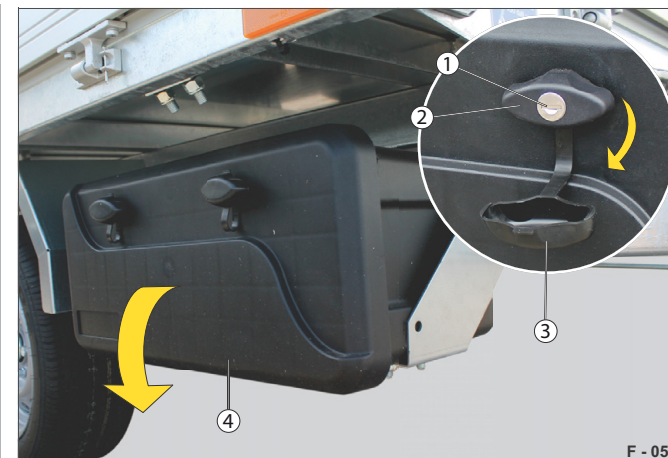

Fig. 81 Using the toolbox
- Fold the cover (Fig. 81 /3) off the lock cylinder (Fig. 81 /1).
- If required, use a key to open the locks (Fig. 81 /2).
- Fold down the lid (Fig. 81 /4).
- Fold the covers (Fig. 81 /3) closed.